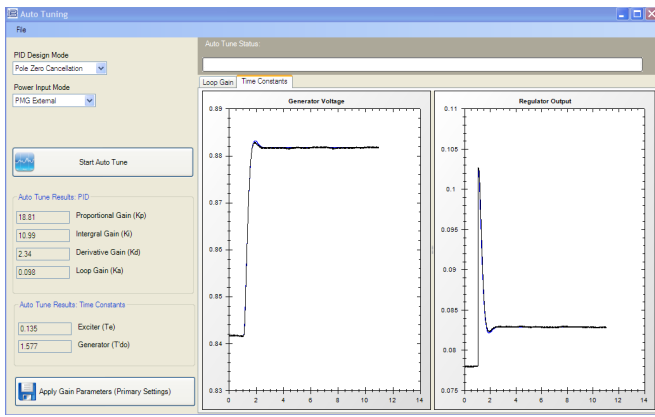
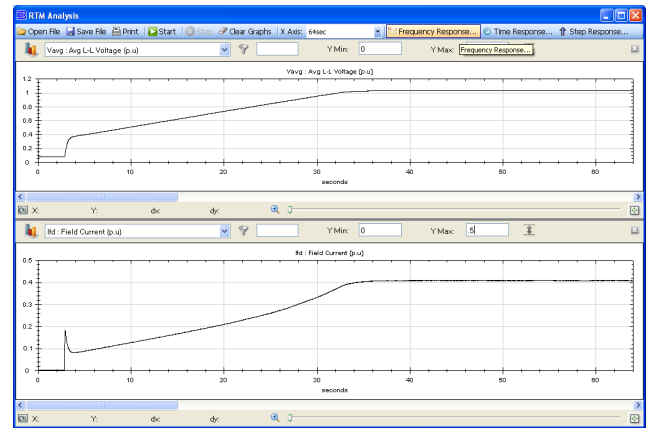
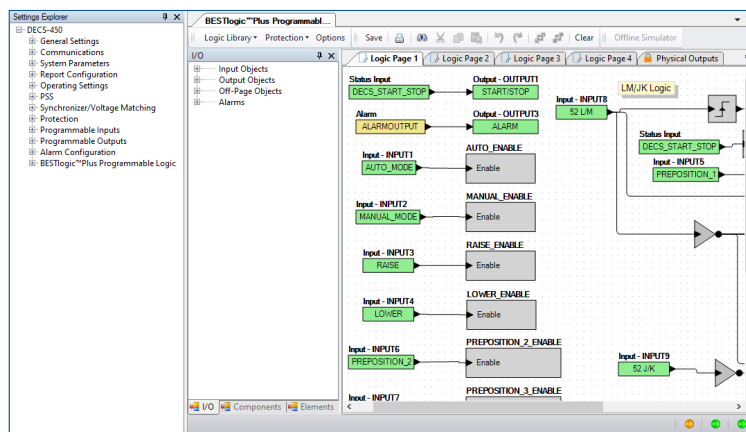

Figure 11: Auto Tuning Screen
Figure 12: Real Time Chart Recorder
Figure 13: BESTlogic™Plus Programmable Logic Screen
The Auto Tuning screen is shown in Figure 11. The Real Time Chart Recorder screen is shown in Figure 12. The BESTlogic™Plus screen is shown in Figure 13.
- Auto Tuning of the Voltage Regulator PID gains (see Figure 11)
- Real time chart recorder, data logging including oscillography and sequence of event information for data capture up to six channels (see Figure 12)
- BESTlogic™Plus programmable logic (see Figure 13)